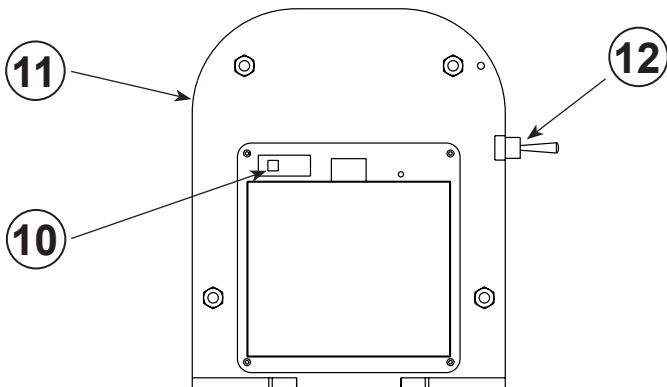
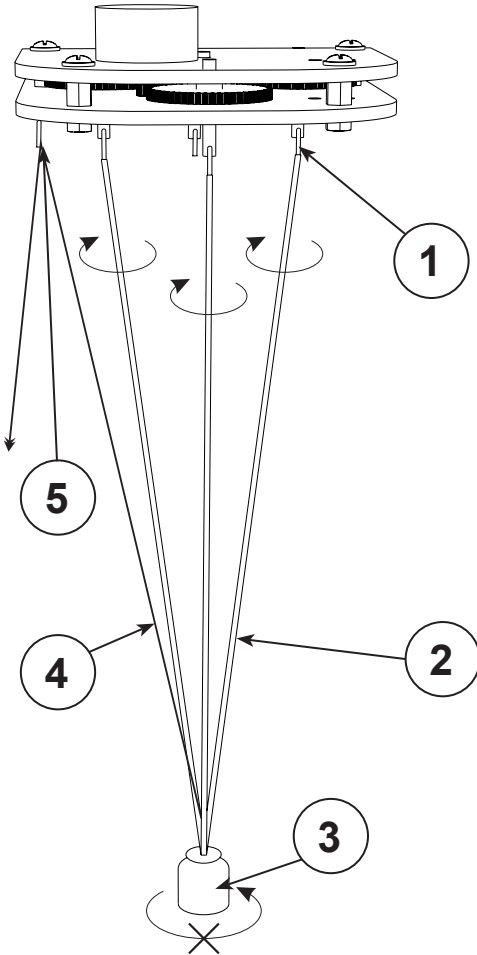
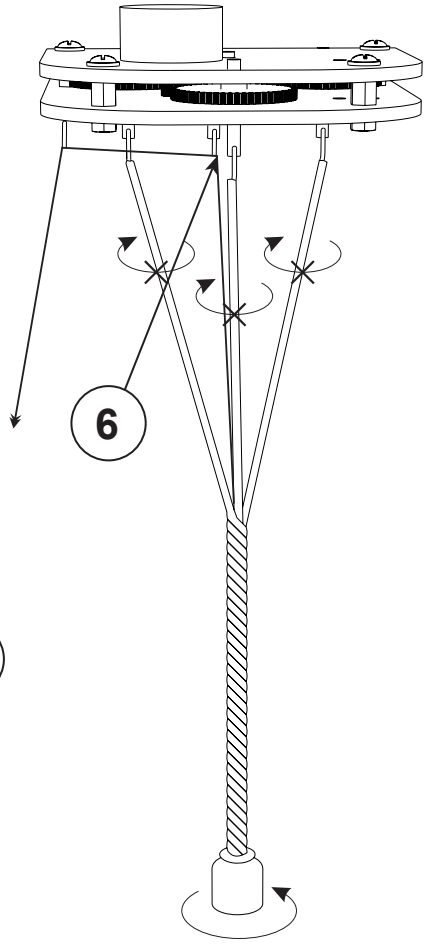
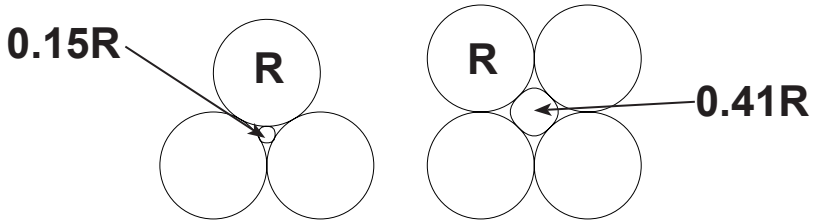

Figure 5.
Figure 9.
Figure 10.
Figure 11.
Use switch **(10)** to turn the machine on (Side LED **(11)** lights) or off. Turn it off when not use to save the batteries. (*fig. 5*)
2. Turn power on using switch (10). LED (11) lights on (fig. 5).
3. Set desired lay using switch (12) (fig. 5).
5. Tie source threads (2) to the hooks (1).
6. Tie the load (3) to loose ends of threads (2).
11. Turn power off using switch (10). LED (11) goes off (fig. 5).
7. Tie the core (4) to the load (fig. 9). Thread the other end of the core through side hole hook. It is recommended to have the core twice the length of source threads. The core diameter should not exceed the diameter shown on fig. 11.
8. Turn on the motor by pressing remote button once to make source threads (2) wind about axis. Hold the load (3) to prevent its rotation about axis and to prevent source threads (2) from intertwinning. If source threads (2) engage each other, bring them apart manually (fig. 9).
9. After a while, when the load (3) has ascended to 10–15 % of source threads' (2) length, stop the motor by pressing remote button once again.
10. Preventing the load from rotating, thread the core (4) through the hook (6) mounted on the central axis and tense it slightly (fig. 10).
11. Release the load (3) and let it rotate freely about axis, thus winding source threads (2) around each other and around the core (fig. 10).
14. Turn power off using switch (10). LED (11) goes off (fig. 5).
MicroUSB socket is located near side LED (11) (fig. 5).
4-stranded rope w/o core comes uneven, with hogs.	See fig. 9 . One of strands attempts to take central position. Use the core.